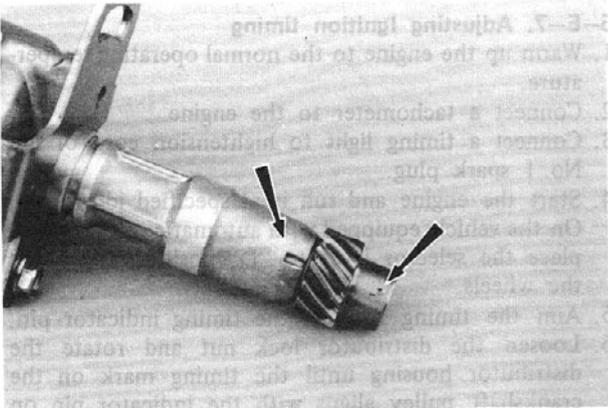

Fig. 5-49
1. When installing the cam, first align the tally marks on the distributor housing and driven gear as shown in Fig. 5-49.